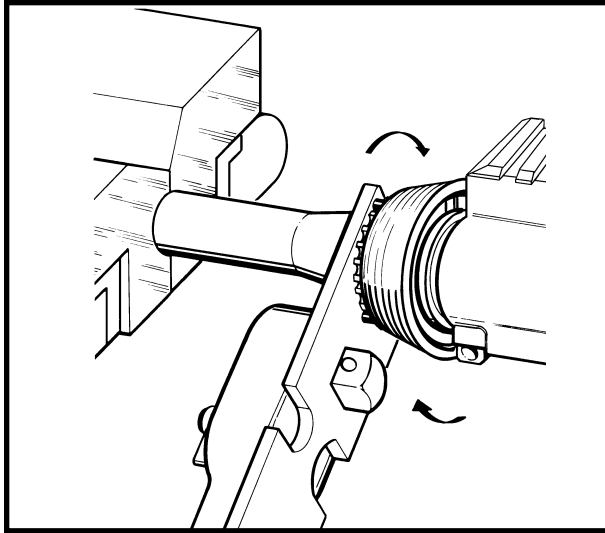

Figure 3-2-14 Unscrewing the Barrel Nut
- (2) Using the combination wrench and a 1/2 inch drive ratchet, unscrew the barrel nut assembly in a counter-clockwise direction, as viewed from the front. See Figure 3-2-14.